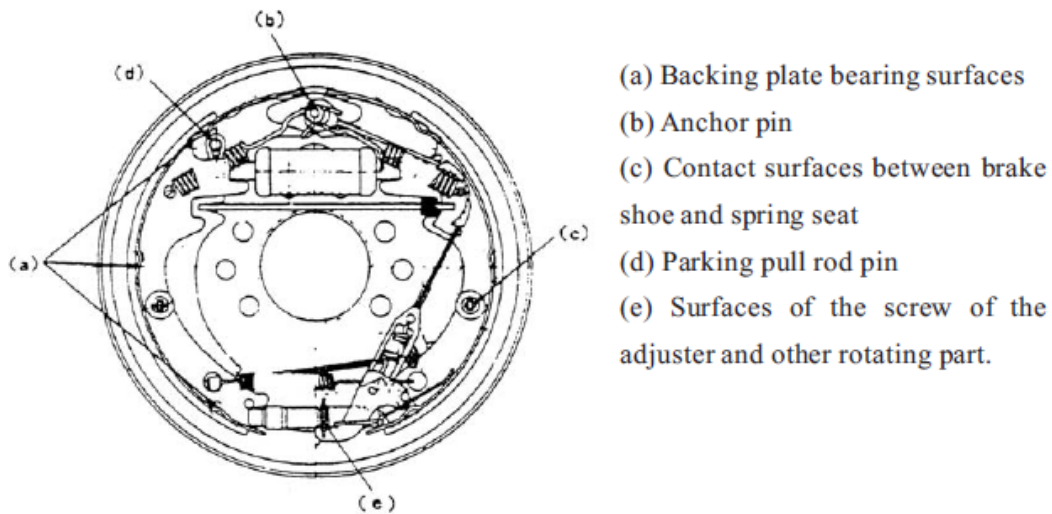

Fig. 2-20
- (1) Apply brake fluid to the piston and the piston cup, and reinstall the spring, cup, the piston and the dust cover in this order.
- (2) Install the operating cylinder on the backing plate.
- (3) Install the backing plate on the front axle.
- (4) Apply heat-resisting grease on the points indicated in Fig. 2-20, with care not to contaminate the friction piece with grease.